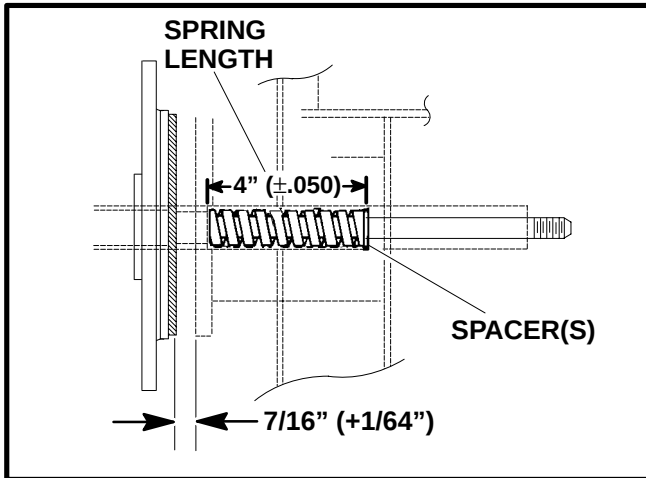

FIGURE 30
5. Install thrust washers and thrust bearing into cam and slide into place on shaft. See Figure 30.
4. If spring length is correct and the measurement is not the 7/16" allowed, insert or remove the appropriate amount of the .030" (.762 mm) spacers (Part No. 515200) to obtain the correct measurement. See Figure 30.